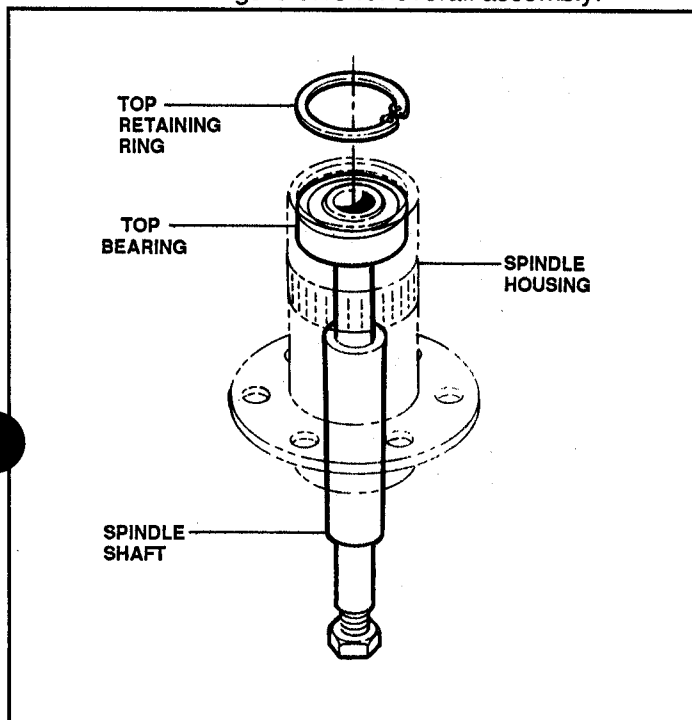

FIGURE 3.19
12. To remove top bearing, remove top retaining ring and insert spindle shaft (without lower bearing) into housing from underside until it contacts center of top bearing. Tap shaft lightly until bearing is free of housing. See Figure 3.19 for overall assembly.